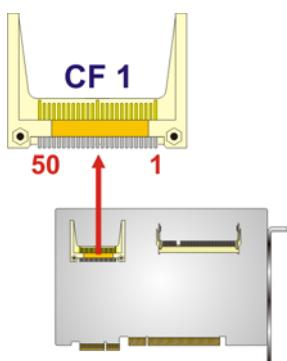

Figure 3-6: CF Card Socket Location
**CN Location:** See Figure 3-6